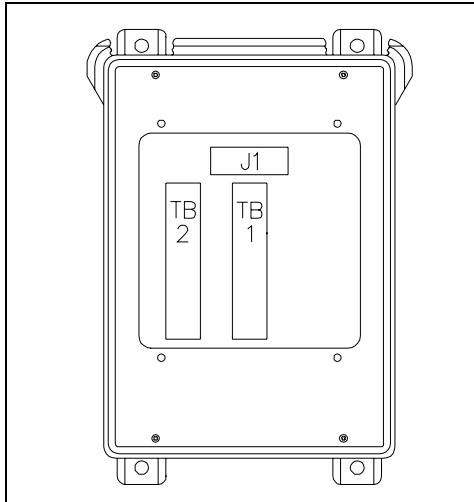
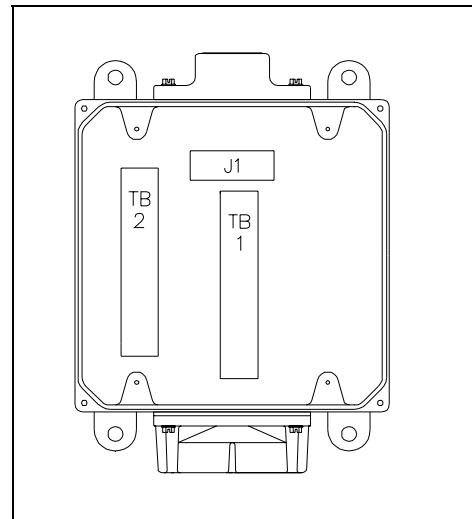

Figure 2. Weatherproof Enclosure
Figure 3. Weatherproof Enclosure
2. Remove and discard the harness assembly (TB1), the connector (J1), and the associated hardware. See Figure 2 and Figure 3.